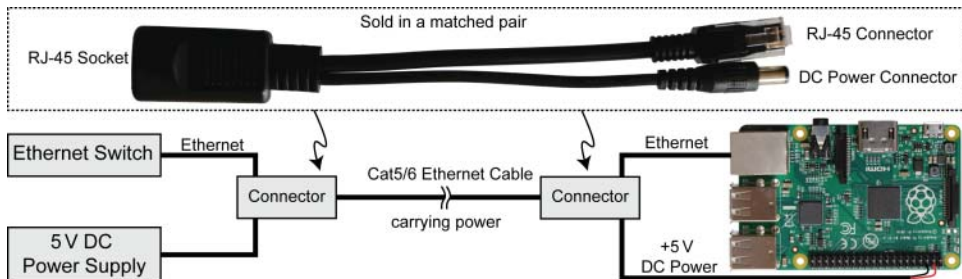

Figure 12-23: Adafruit pseudo-PoE cable
1. **Use a pseudo-PoE cabling structure:** Adafruit sells a *Passive PoE Injector Cable Set* (~\$6), illustrated in Figure 12-23, for which you can use a regular 5 V mains supply to inject power into the unused twisted pair wires, and then draw that power at the other end of the cable. You can use the crimp tool that is described in Chapter 4 to terminate the DC power connector with a DuPont connector so that it can be attached to the RPi GPIO header (e.g., pins 4 and 6). **Do not connect such cables to a true PoE switch!**
One problem with the arrangement in Figure 12-23 is that the 5 V supply voltage will drop as the cable length increases due to the impact of cable resistance. Recently, low-cost network switches have become available that offer PoE functionality. *Power extraction modules* (PEMs) can be purchased to step down the 48 V DC voltage that is supplied by these switches to lower, fixed DC levels (e.g., 3.3 V, 5 V, 12 V). The low-cost (\$10–\$15) PEM that is used in this section is the PEM1305 (tiny.cc/erpi1205), which can be used to supply 5 V to the RPi. PoE